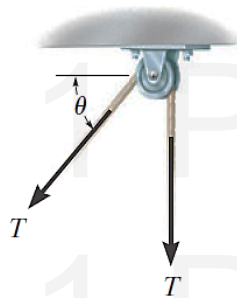

Figure 3-1: Cable is in Tension
- **For any angle  $\theta$** , shown in Figure 3-1, the cable is subjected to a **constant tension  $T$**  throughout its length.